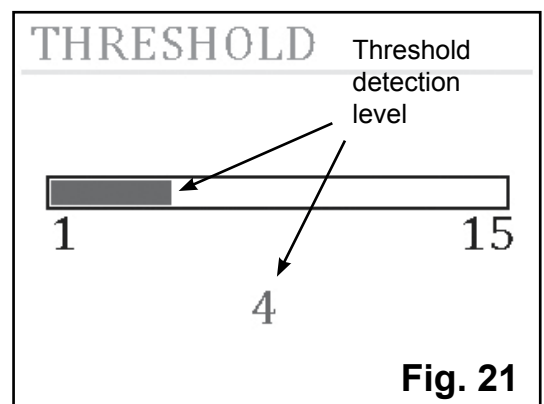

Fig. 21
3. Adjust threshold detection level by pressing  button (Fig 21). Press  button to apply settings.